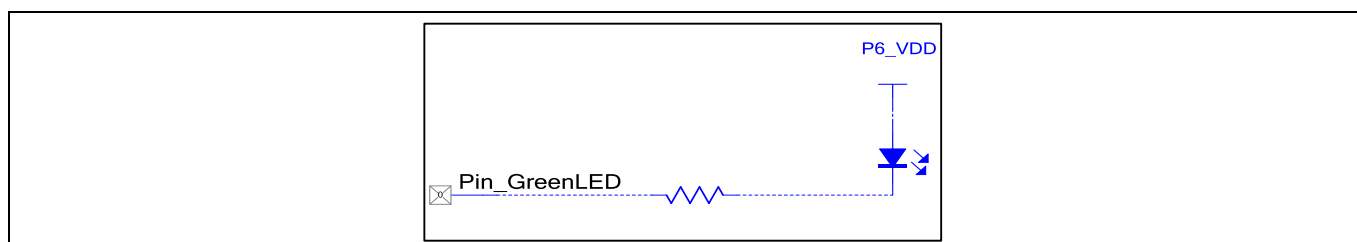

Figure 16 An Output Pin with Off-Chip Components
3. For a pin, if you enable **External terminal**, you can add external “off-chip” Components to a design. External Components on the schematic are included for descriptive purposes only; they have no effect on the generated code. Off-chip Components are optional, but can assist the hardware design team understanding how the design works. You can also add text boxes to a design with descriptions. Figure 16 shows how you could enhance the design for the LED. In this case, the off-chip components were configured with the **Instance_Name_Visible** option unchecked. The resistor was configured with the **Value** field left blank. The power terminal was configured with the **Supply_Name** set to P6_VDD.